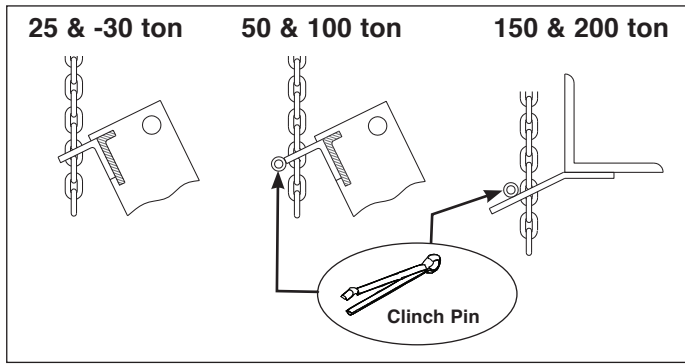

Figure 6, Chain and Lifting Hook.
2. Slide chain into the lifting hook on press bed as shown in Figure 6. Install clinch pin (50, 100, 150 and 200 ton models only).